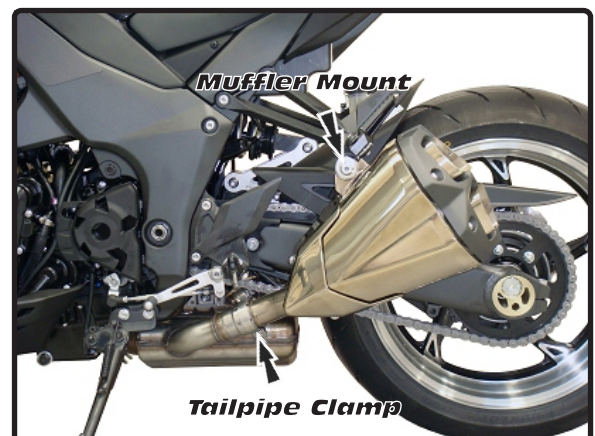

Fig. 3
- Loosen left side tailpipe clamp ( Fig. 3 ).
- Remove left side muffler hanger bolt ( Fig. 3 ).